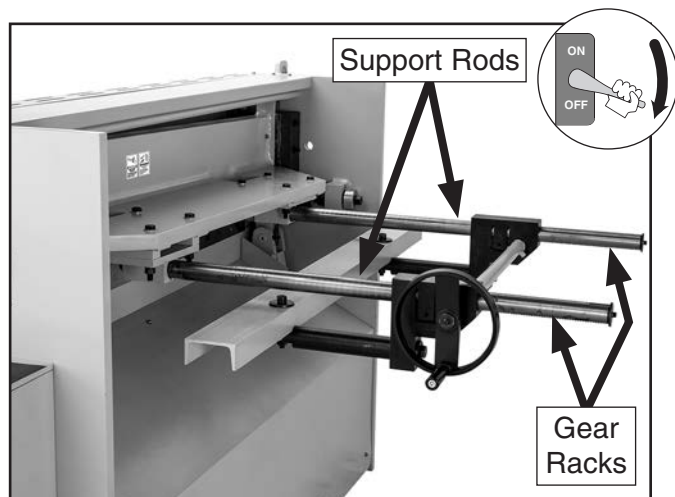

Figure 46. Rear work stop support rod lubrication.
2. Use mineral spirits and stiff cleaning brush to clean gear racks on bottom of support rods (see **Figure 46**).